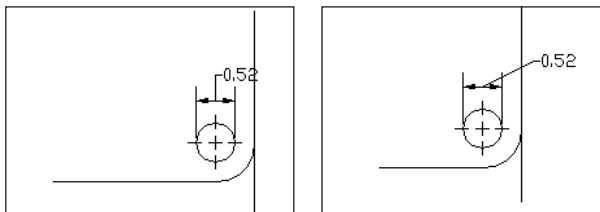

Figure 15-21: Dimension text is placed over the dimension line with a leader. On the right, the text has been moved to the right of the model.
- ♦ **Over the dimension line, with a leader:** Places the dimension text over the dimension line, between the extension lines, but above them, with a leader from the dimension line to the text. You can move the text anywhere to suit your needs and dimensioning conventions, as shown in Figure 15-21.